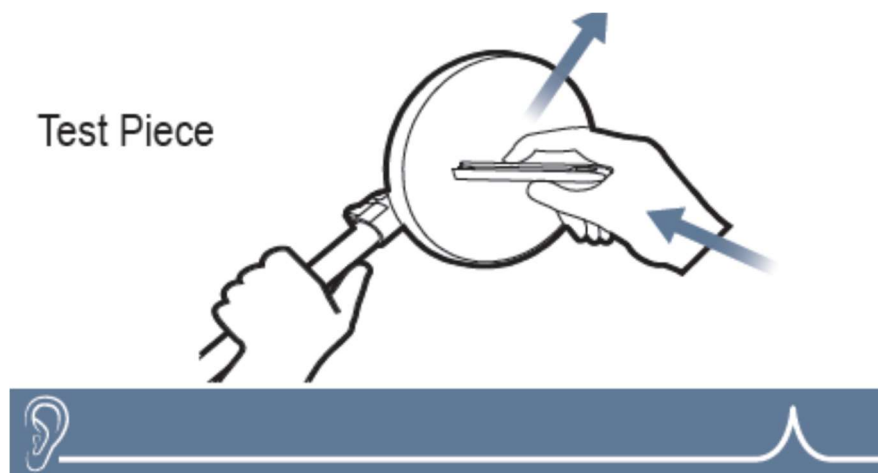

Figure 9: Test Piece Test.
- Move the test piece towards the centre of the coil until it lightly touches the coil then move it sideways off the coil, as shown in figure 9.